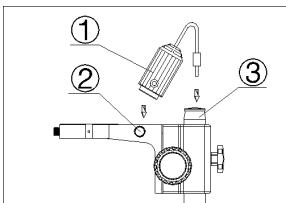

Fig.6
- 1) Insert the illumination device ① in the bracket with the protrudent side toward the lock-screw ② and tighten the lock-screw. (Fig.6)
- 2) Put the plug into the socket of the pillar stand ③.